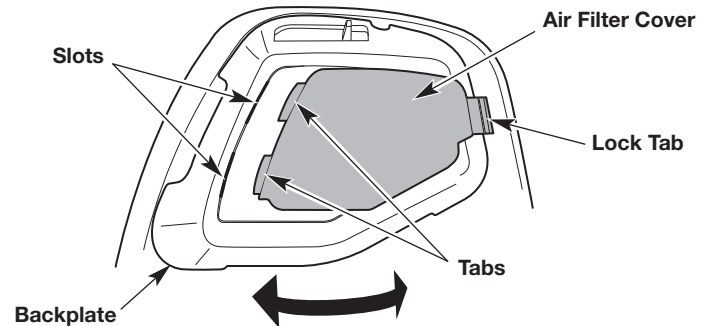

Fig. 31
1. Open the air filter cover: press in the lock tab and swing the air filter cover to the left (Fig. 31).
7. Close the air filter cover: insert the tabs on the air filter cover into the slots on the backplate. Swing the air filter cover to the right and press it closed until the lock tab snaps into place (Fig. 31).